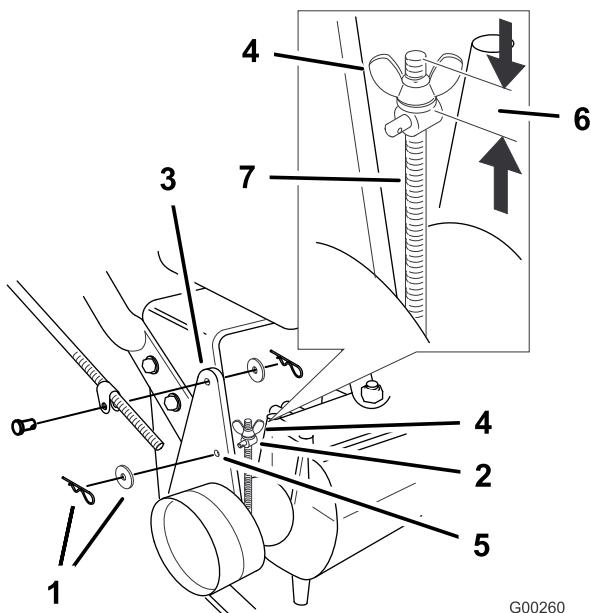

Figure 47
Note: For the initial adjustment, adjust the wing nut until it is 1-1/4 inches from the top of the rod (Figure 47).
5. To adjust the brake remove the hair pin cotter and washer from the brake lever and trunnion (Figure 47).
8. Install the trunnion into hole F (Figure 47). Tighten the wing nut.
9. Secure trunnion to brake lever with washer and hair pin cotter (Figure 47).